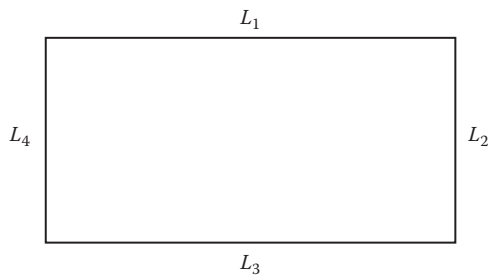

FIGURE 11.2 Perimeter.
The perimeter (P) of a rectangle (a four-sided figure with four right angles) is obtained by adding the lengths (L_i) of the four sides (see Figure 11.2):